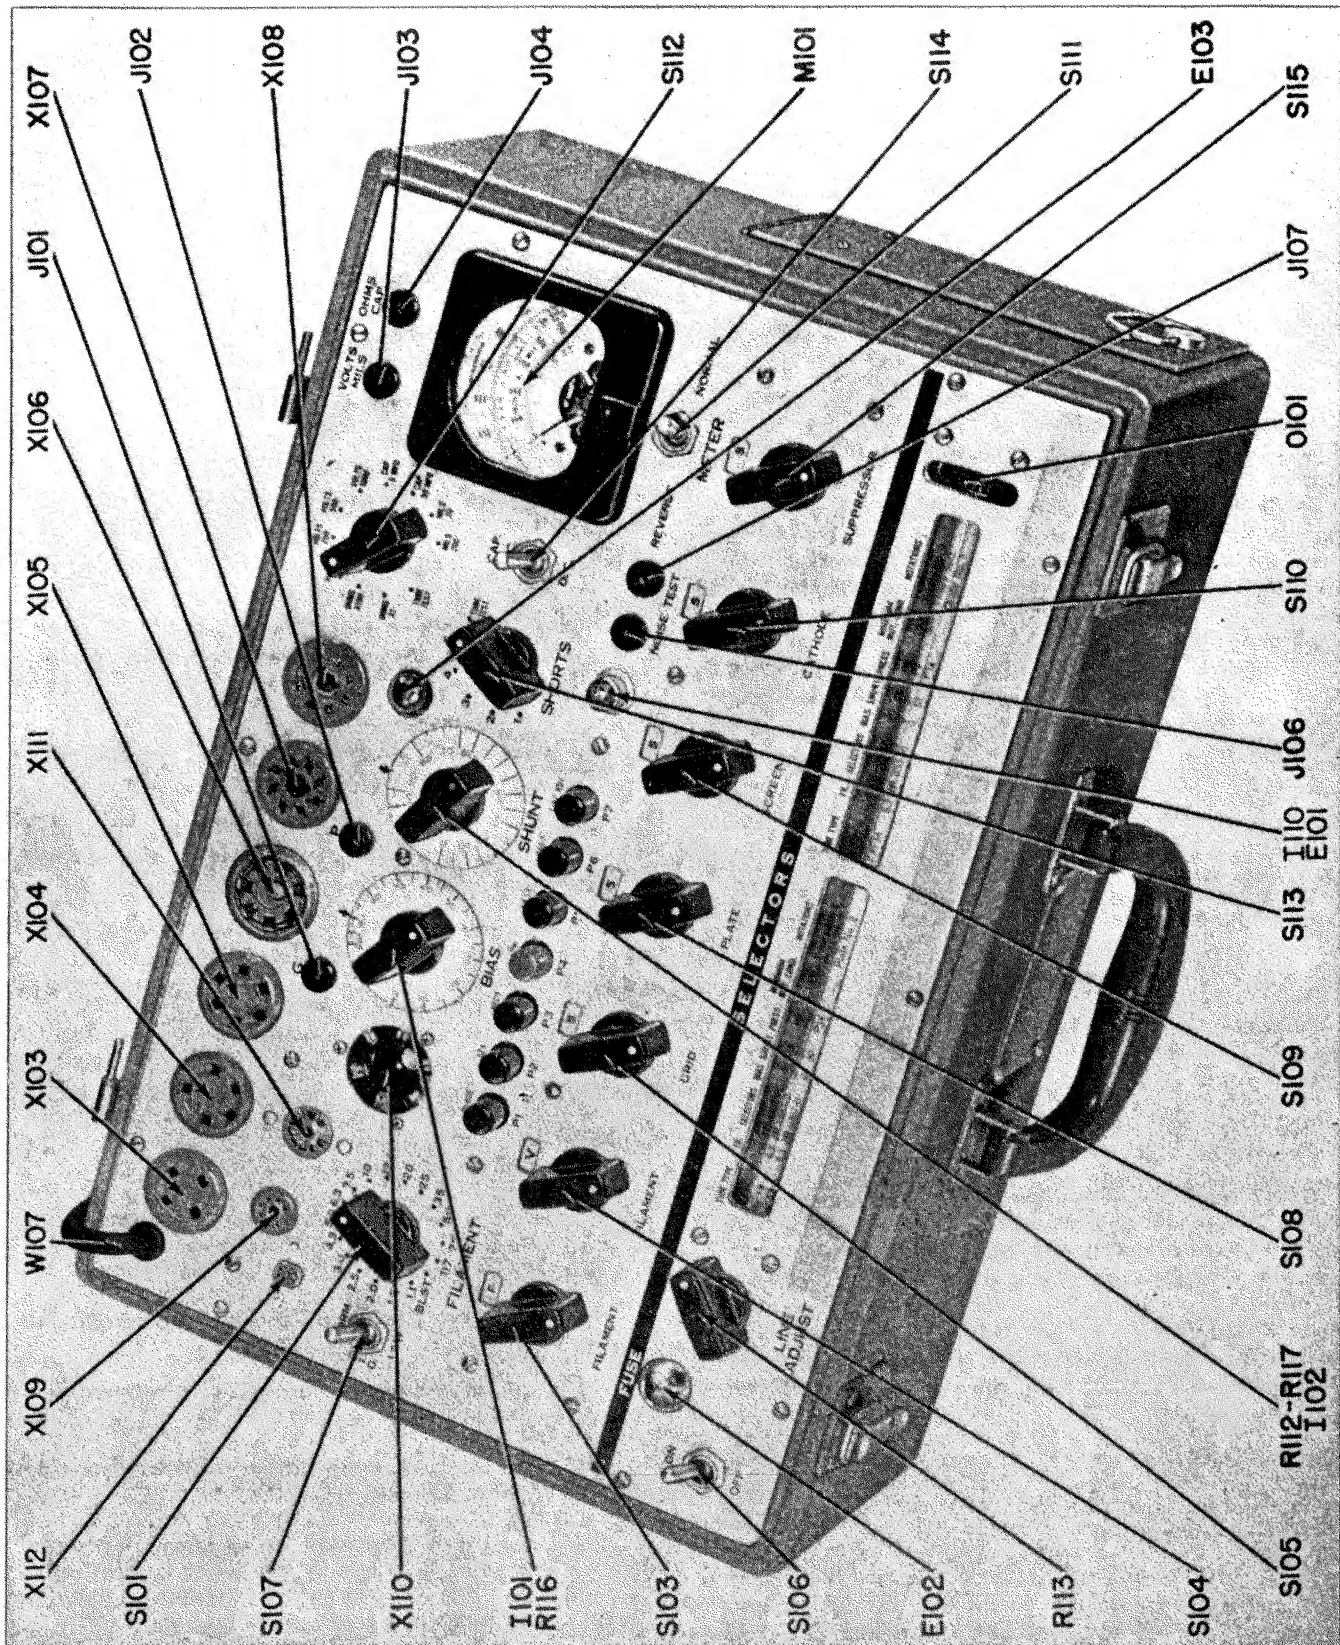

Figure 4-1. Front View of Tube Tester TV-3/U Showing Controls By Symbol Designation
a. Refer to the photograph of the Model TV-3/U, Figure 4-1, or preferably to the *tester itself*.
(1) The tube sockets are grouped along the top edge and in the upper left hand section of the panel as follows. Along the top edge reading from left to right are standard sockets for 4-5-6 pin tubes, a dual socket for large and small radius 7 pin tubes, which also provides a pilot lamp test receptacle, an 8 pin octal socket, and an 8 pin loctal socket. A 7 pin miniature socket and a 9 pin, or noval miniature, are located directly below the 4 and 5 pin standard sockets respectively. An acorn tube socket designed to accommodate all tubes of this type now in use is located directly below the 6 pin socket. An 8 contact subminiature socket is located to the left of the 7 pin miniature socket.